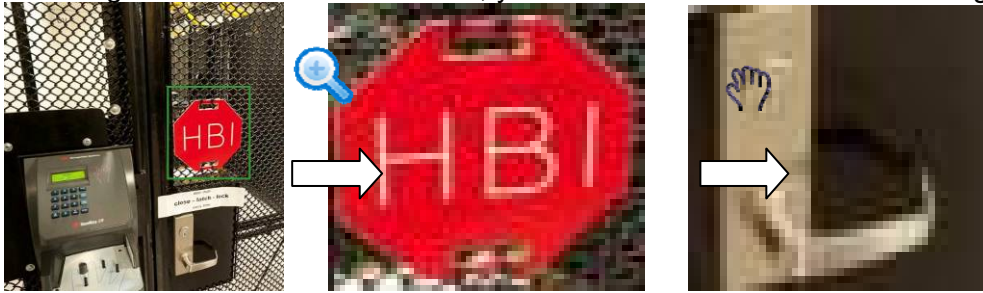

Figure 4-9
- Drag the mouse to select a zone, you can view an interface show as Figure 4-9.